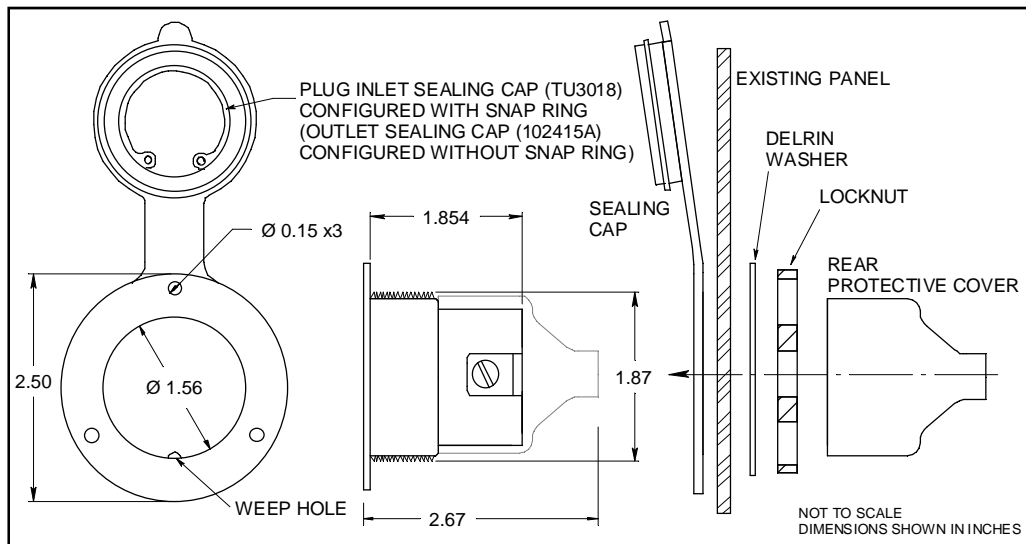

Figure 1 – Inlet and outlet plug dimension requirements and layout.
Flanged plug inlets and outlets are configured in nylon housing with straight blade contacts, sealing cap, rear protective cover, Delrin washer, and 1.50 inch locknut (Figures 1 and 2). Terminals color coded.
Note: Plug inlet sealing caps (TU03018) configured with internal snap ring (Figures 1 and 3).
Acceptable to mount without tethered cap and/or flange mount, reference Figures 1, 2, and 3.
2. Install plug weep hole down, position cap, and assemble (Figures 1 and 2). Torque locknut to adequately secure plug without distorting washer - approx 35-45 lbf in / 4.0-5.0 Nm.